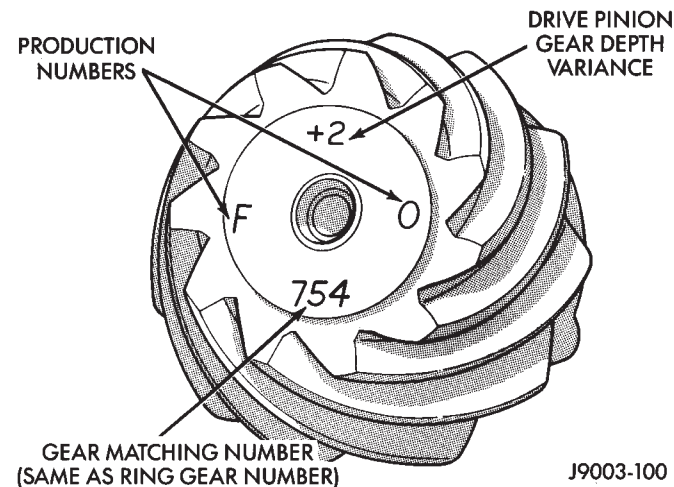

Fig. 40 Pinion Gear ID Numbers
Ring and pinion gears are supplied as matched sets only. The identifying numbers for the ring and pinion gear are etched into the face of each gear (Fig. 40). A plus (+) number, minus (-) number or zero (0) is etched into the face of the pinion gear. This number is the amount (in thousandths of an inch) the depth varies from the standard depth setting of a pinion etched with a (0). The standard setting from the centerline of the ring gear to the back face of the